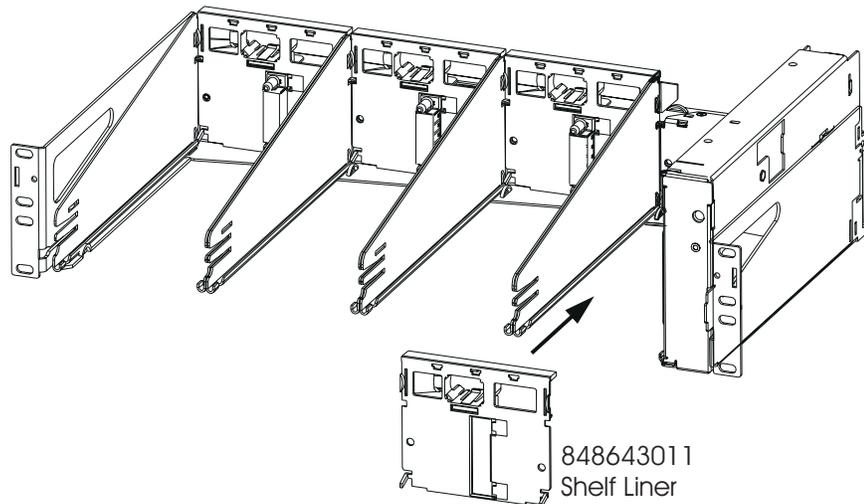

Figure 5-12: Installing the Shelf Liner
1. One shelf in a two-shelf system must be converted into a supplementary shelf. Insert shelf liner to shelf as shown in Figure 5-12. If required, insert ac cord to new rectifier slot per instructions found in Installation: AC Cord Connection to Shelf.
1. Insert the shelf liner to the shelf as shown in Fig 5-12. If required, insert ac cord to new rectifier slot per instructions found in Installation: AC Cord Connection.